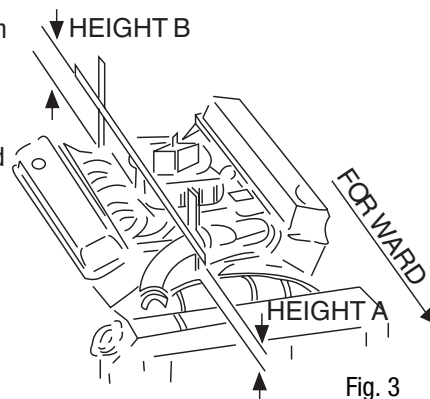

Fig. 3
3. Measure from block and manifold end seal surface. See Figure 3.